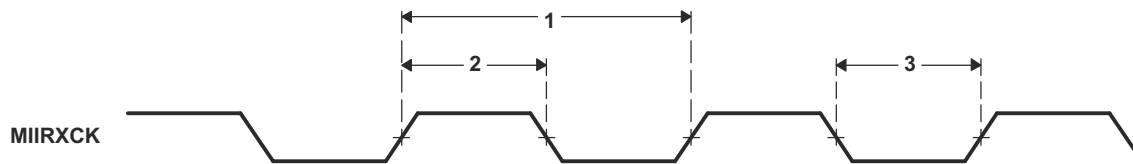

图 7-37. 100/10Mb/s MII Receive Clock Timing
7.11.6.3.3 Timing Requirements for MIIRXCK (see 图 7-37)